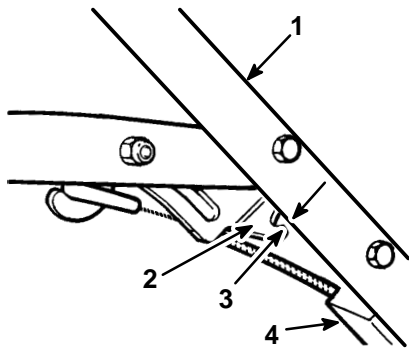

Figure 24
2. **CHECK ADJUSTMENT** (Fig. 24 & 25)—Move control bar toward handle until slack in wire is removed. Gap between brake lever and handle must be 3/16"-1/4". See Step 3 for adjustment.
Self-propelled Model (Fig. 24)